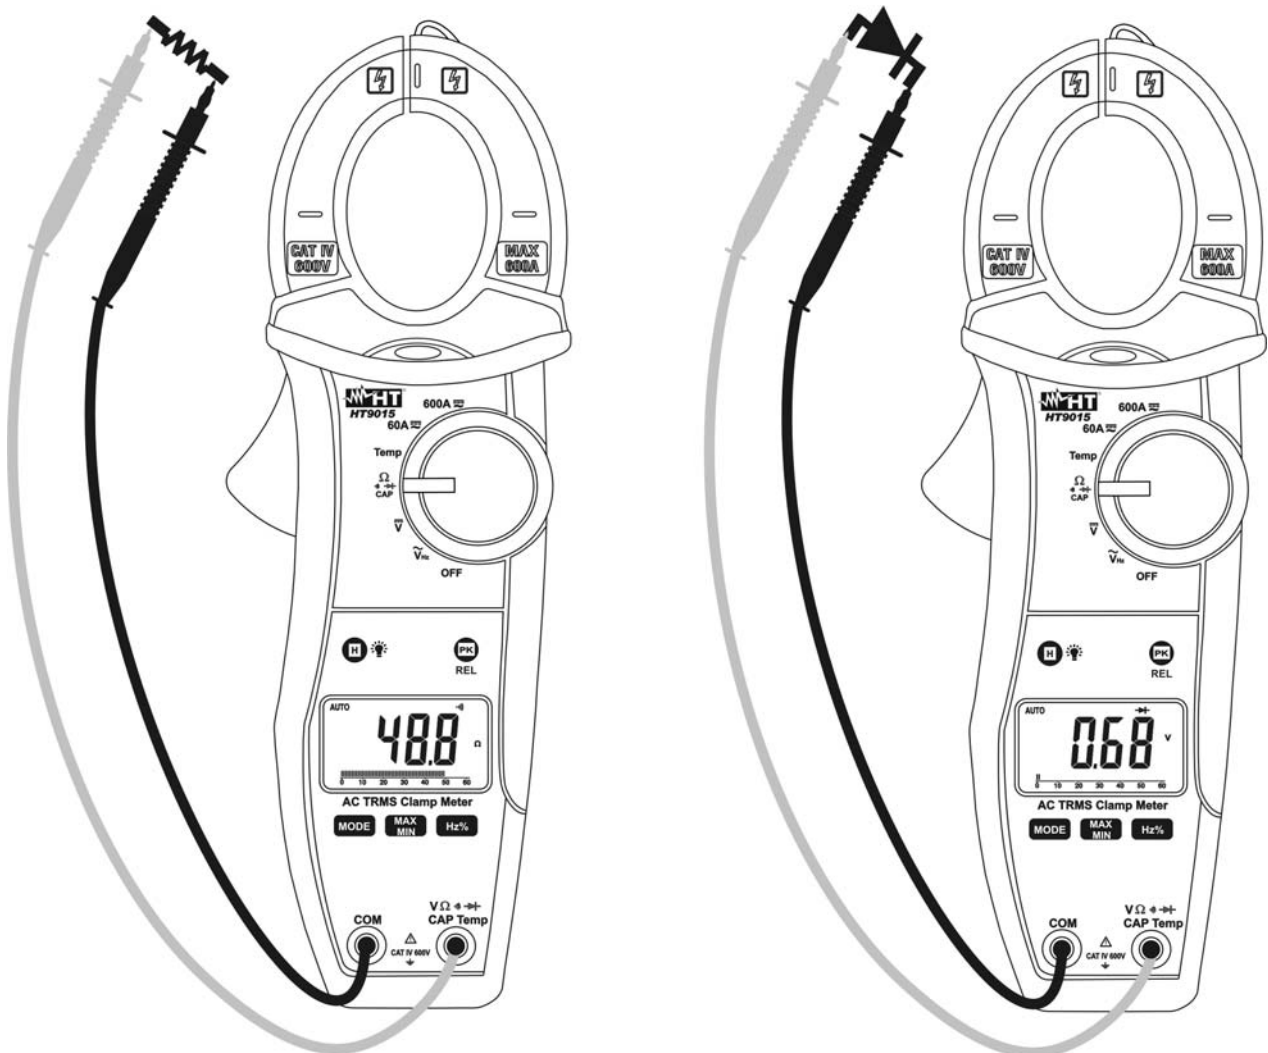

Fig. 6: Taking Continuity test and Diode test
3. Insert the red test lead plug into **V  $\Omega \rightarrow \rightarrow \rightarrow$  CAP Hz % Temp** jack and the black test lead plug into **COM** jack and perform continuity test on the object under test (see Fig. 6 – left side). Buzzer emits sound if the measured resistance value is less about 60 $\Omega$
5. Connect the red test leads to the anode of diode on test and the black test lead on the cathode ones (see Fig. 6 – right side). Reverse position of test leads to reading reverse polarization voltage